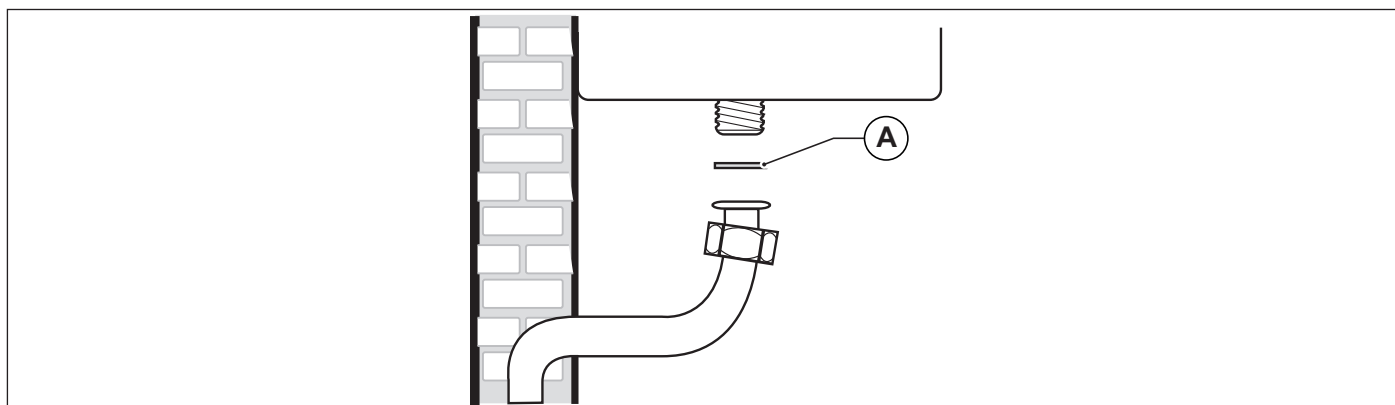

Fig. 8 Connection to gas mains
When connecting the boiler to gas supply network, it is **COMPULSORY** to install an appropriately sized gasket (A) made from suitable material (see Fig. 8 Connection to gas mains).